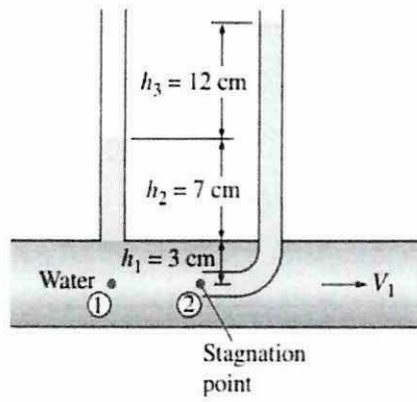

Figure Q1 (d)
- (d) A piezometer and a pitot tube are tapped into a horizontal water pipe, as shown in **Figure Q1 (d)**, to measure static and stagnation pressures. For the indicated water column heights, determine the velocity at the center of the pipe. (6 marks)
- Q2** (a) State the **THREE (3)** limitations on the use of the Bernoulli equation (3 marks)